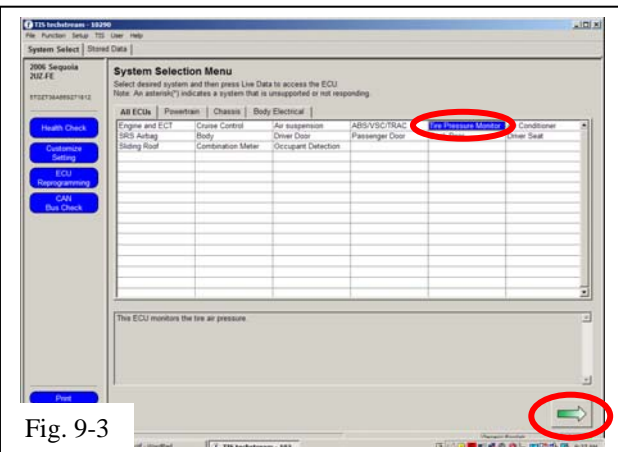

Fig. 9-3
- Select “Tire Pressure Monitor” Then click the green arrow located on the bottom right. (Fig. 9-3)